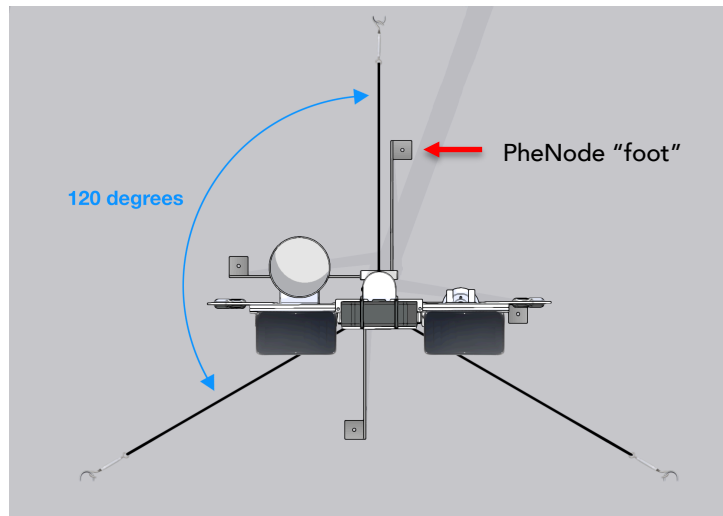

Figure 18. Guy wire positioning from above
4. Hammer ground stakes into the "foot holes" of the Tower structure until the hook on the ground stake is touching the metal of the PheNode "foot" (Figure 18) and both sides of the ground stake hook are below the ground surface.
Mark the spot where the hook end of the turnbuckle is touching the ground. (CHECK TO ENSURE THE TURNBUCKLE IS LOOSENEED ENOUGH THAT AT LEAST 3" OF THREADING IS EXPOSED ON EITHER SIDE) All guy wires should be roughly 120 degrees away from one another (Figure 18). Eye screws on the tower structure are already 120 degrees from one another and should be used as a guide.